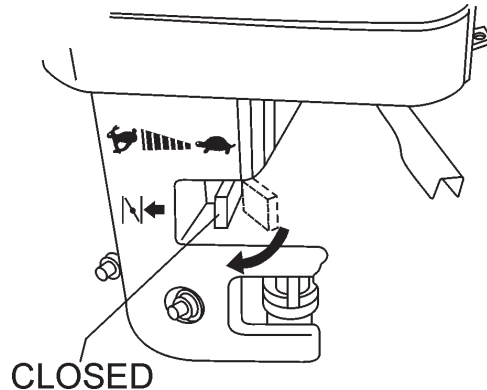

Figure 11. Engine Choke Lever (Closed)
3. Place the **choke lever** (Figure 11) in the "CLOSED" position if starting a **cold engine**.